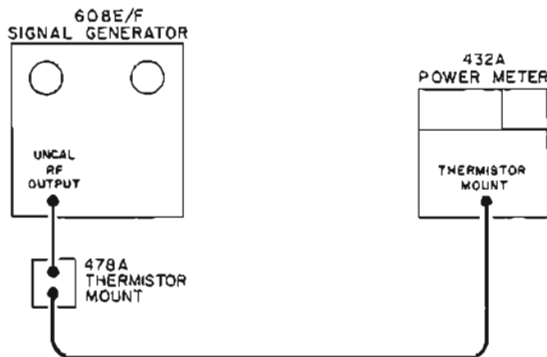

Figure 5-6. Uncalibrated RF Output Test Setup
a. Connect signal generator in test setup illustrated in Figure 5-6.